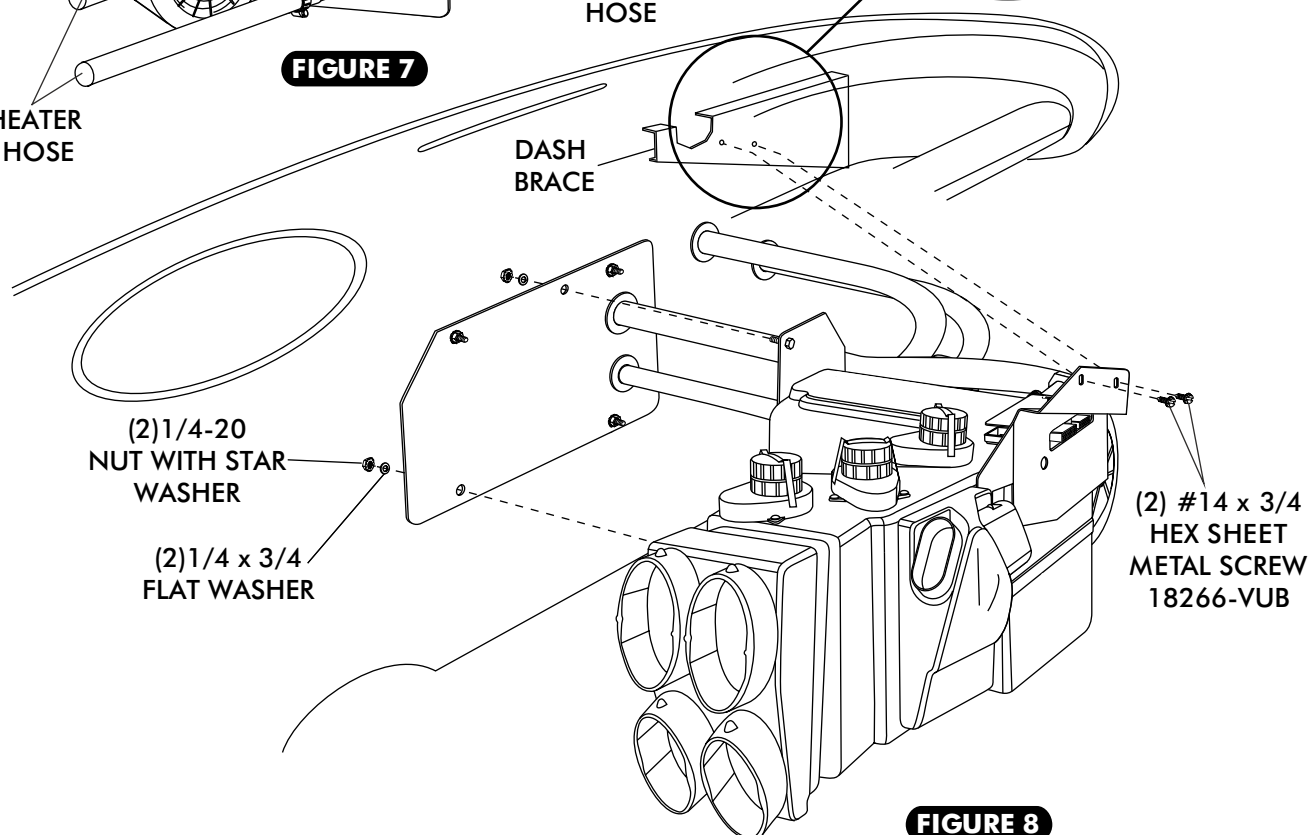

FIGURE 8
- ☐ LIFT EVAPORATOR UNIT UP UNDER THE DASHBOARD. SECURE LOOSELY TO THE FIREWALL FROM THE ENGINE COMPARTMENT SIDE USING (2) 1/4-20 NUT WITH STAR WASHER, FLAT WASHERS. SEE FIGURE 8.
- ☐ SECURE THE FRONT EVAPORATOR MOUNTING BRACKET TO COWL USING (2) #14 x 3/4 HEX SHEET METAL SCREWS SEE FIGURE 8 BELOW.